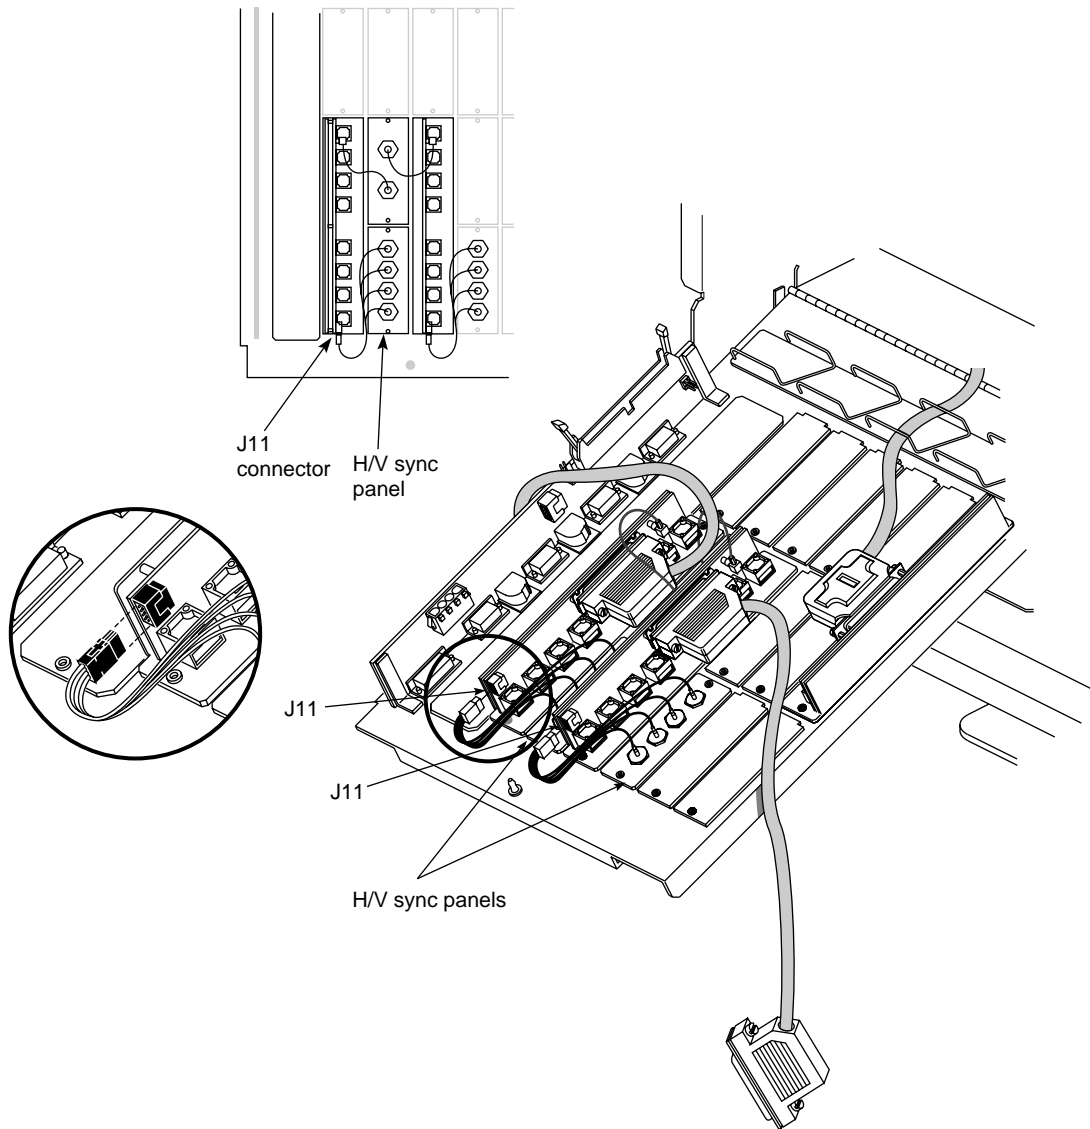

Figure 2-9 Cabling the H/V Sync Panels
8. Cable the H/V sync panel for channels 0 and 5 to the EF5 0 and 5 panel: attach the black plastic 4 x 2 connector to the EF5's J11 connector, as shown in Figure 2-9. The connectors are keyed.